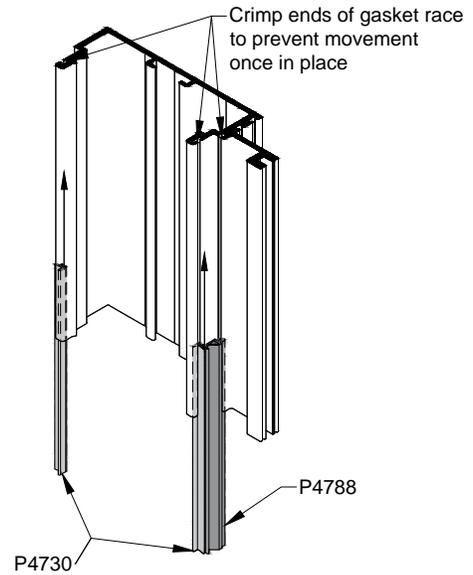

Fig. 40.1
- A. Install P4730 wiper gasket continuous into the front and back of each male vertical member. Crimp the ends of the mullion to lock the wiper gasket in place. See Fig. 40.1.
- B. Install P4788 air seal gasket continuous in the front of each male intermediate vertical. 'Ping' metal to crimp gasket in place. See Fig. 40.1.
- E. Position reducers in the pocket (vertical reducers run beyond horizontal reducers) and engage in back member reglet. See Fig. 40.1. For glass that is structurally glazed, attach the pocket reducer to the mullion 2" from each end and at the mid-point with S207 #10-24 x 1-1/4" FH.